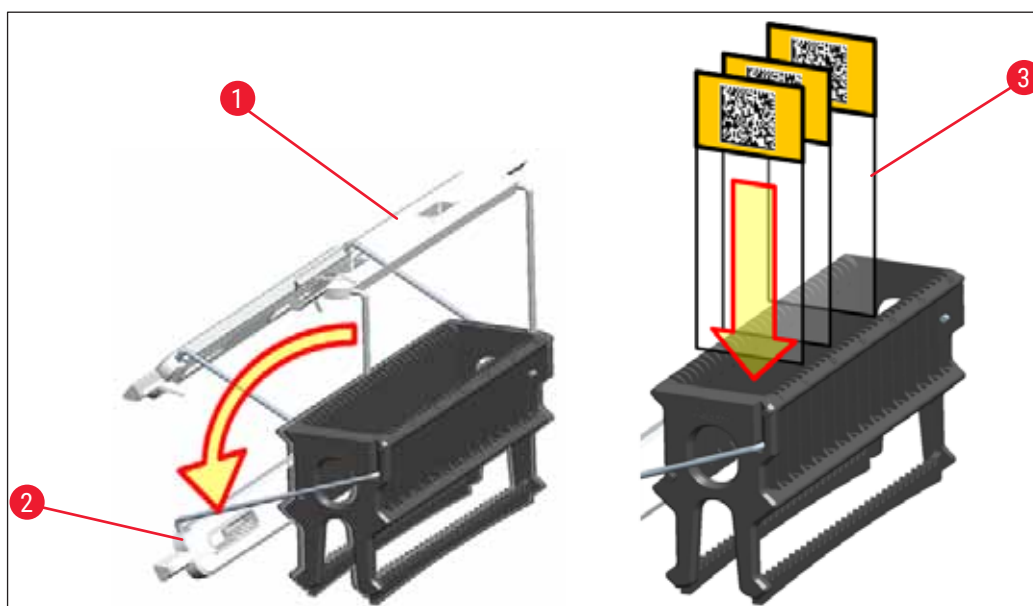

Fig. 83
- The front side of the rack is labeled with the Leica logo. With the handle attached, **FRONT** can be read when looking at the handle (→ "Fig. 83").
1. Fold the rack handle into the upright position (→ "Fig. 83").